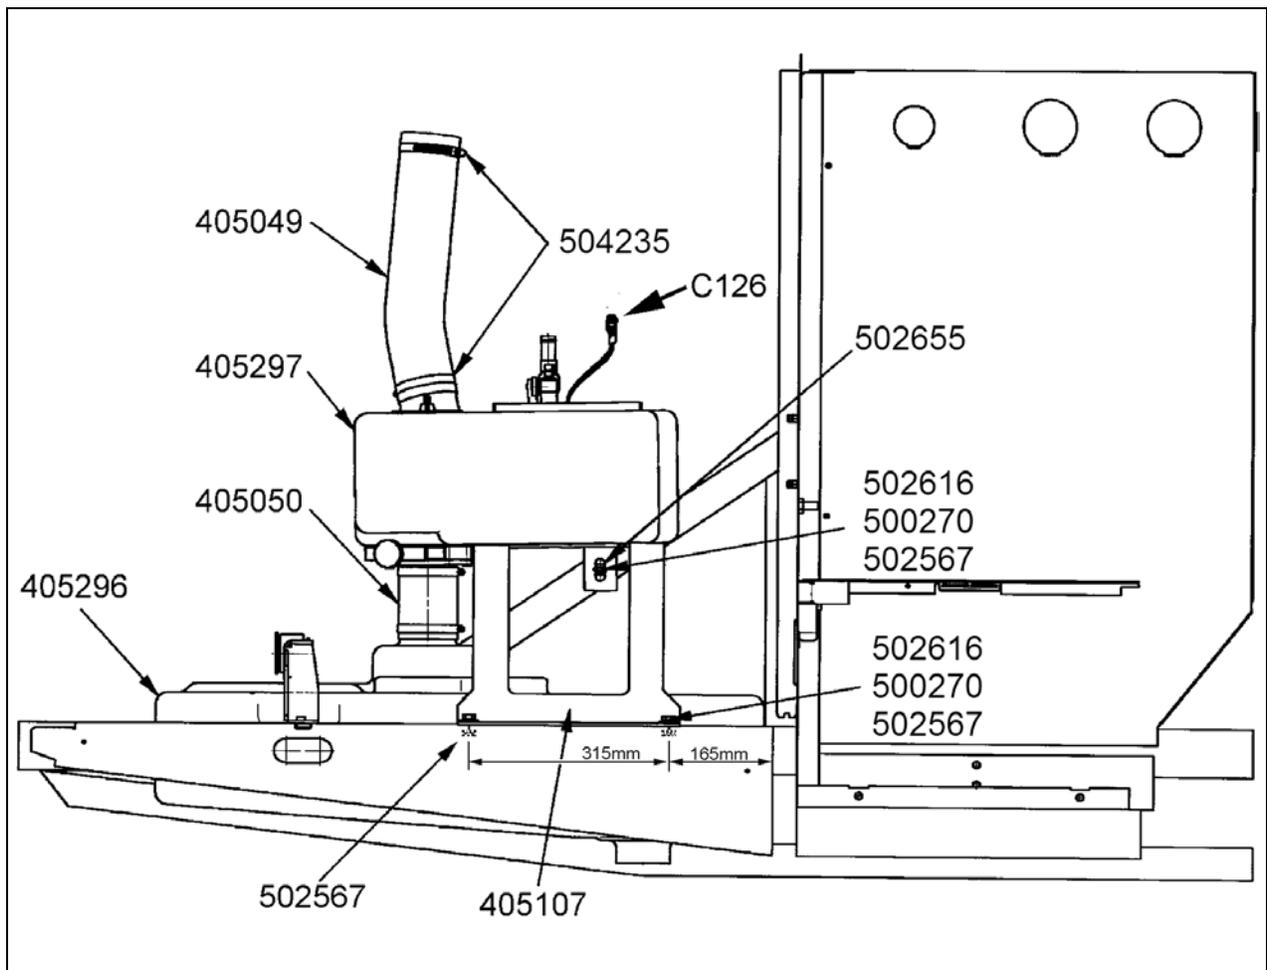

FIGURE 1 : VIEW OF MAIN AND AUXILIARY SUMP TANK KIT ARRANGEMENT
8. Draw two lines on top of beam, one at 165mm (6 1/2") from the edge of the vertical reinforcement and the second at 315mm (12 3/8") from the first one (see figure 1).
11. Secure support in place using included hardware (refer to figure 1).